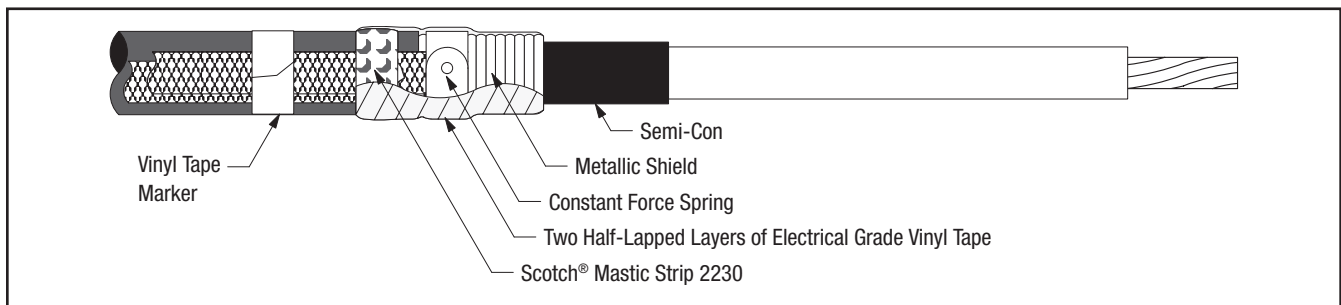

Figure 5
3.5 Wrap two half-lapped layers of electrical grade vinyl tape around mastic seal, constant force spring and exposed metallic shield (Figure 5).